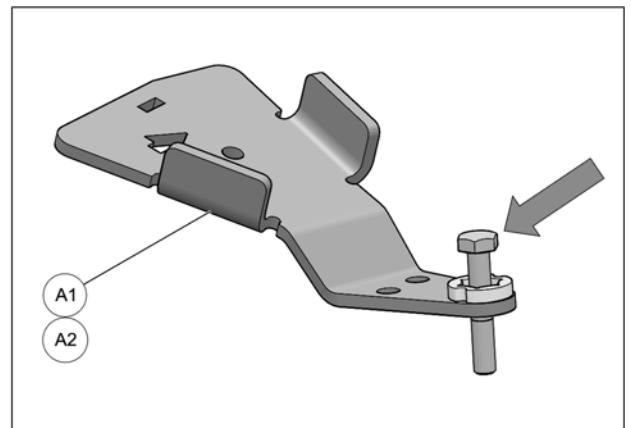

Fig. 16
6. Insert bolts in front anchor brackets (A1-A2) as shown in Fig. 16